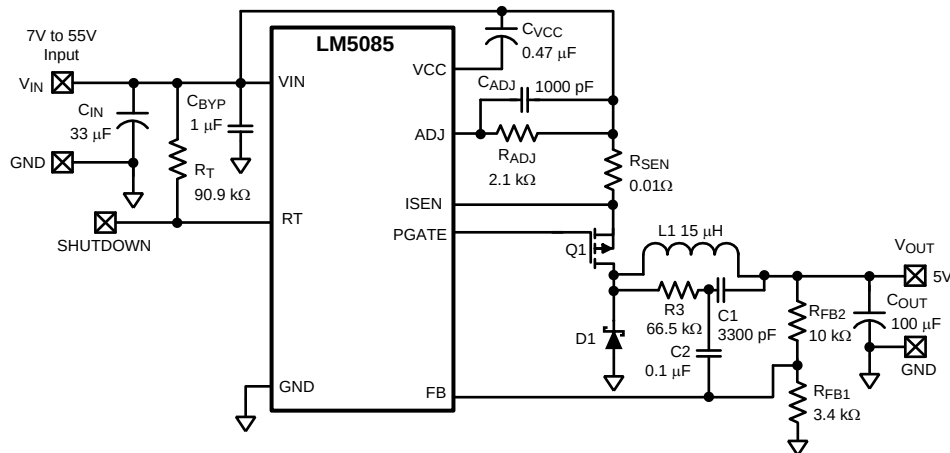
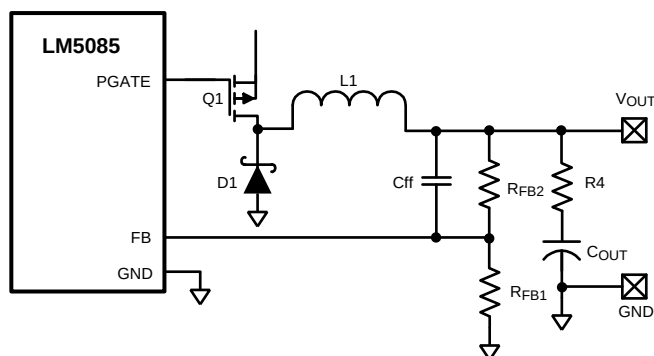

Figure 25. Example Circuit
Figure 27. Reduced Ripple Configuration
The final circuit is shown in Figure 25, and its performance is presented in Figure 29 through Figure 32.
The minimum ripple configuration employing C1, C2, and R3 in Figure 25 results in a low ripple amplitude at VOUT determined mainly by the characteristics of the output capacitor and the ripple current in L1. This configuration allows multiple ceramic capacitors to be used for VOUT if the output voltage is provided to several places on the PC board. However, if a slightly higher level of ripple at VOUT is acceptable in the application, and distributed capacitance is not used, the ripple required for the FB comparator pin can be generated with fewer external components using the circuits shown below.
**a) Reduced ripple configuration:** In Figure 27, R3, C1 and C2 are removed (compared to Figure 25). A low value resistor (R4) is added in series with COUT, and a capacitor (Cff) is added across RFB2. Ripple is generated at VOUT by the inductor ripple current flowing through R4, and that ripple voltage is passed to the FB pin via Cff. The ripple at VOUT can be set as low as 25 mVp-p since it is not attenuated by RFB2 and RFB1. The minimum value for R4 is calculated from:
**b) Lowest cost configuration:** This configuration, shown in Figure 28, is the same as Figure 27 except  $C_{ff}$  is removed. Since the ripple voltage at  $V_{OUT}$  is attenuated by  $R_{FB2}$  and  $R_{FB1}$ , the minimum ripple required at  $V_{OUT}$  is equal to:
(Circuit of Figure 25)